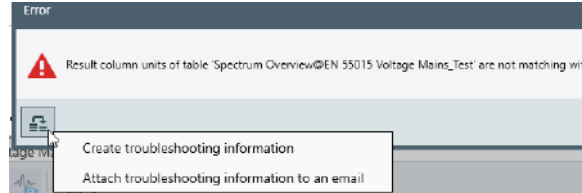

Figure 11-4: Creating specific troubleshooting information
- a) Click the button shown in the lower left of Figure 11-4: